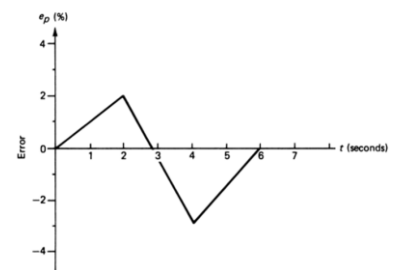

Fig.Q.2A
- 2A.** A PID controller has $K_p=2.0$, $K_i=2.2\text{sec}^{-1}$, $K_d=2\text{s}$ and $P_I(0)=40\%$. Plot the controller output for the error shown in Fig.Q.2A